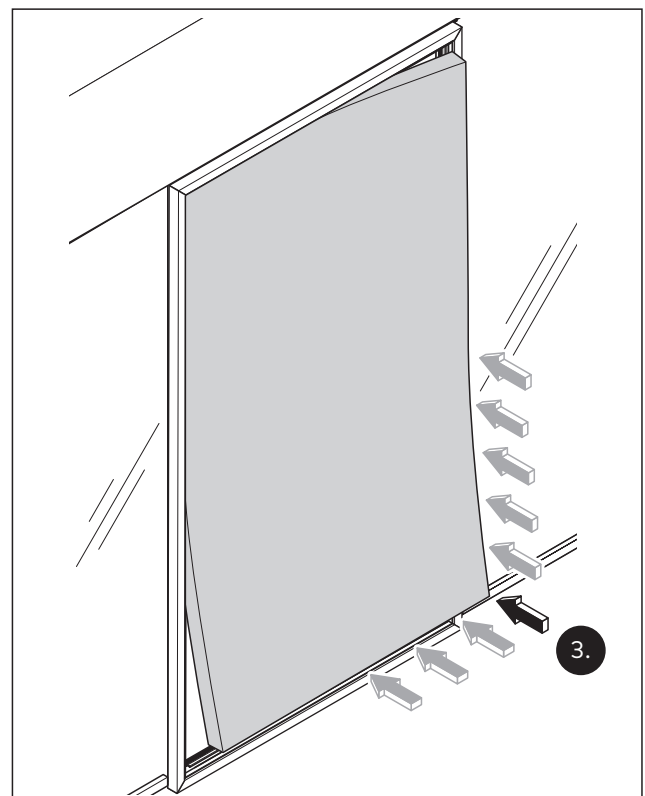

Fig. 39 Press the rubber piping in the lower right into the horizontal and vertical groove to the middle of the two profile sides
3. Starting from the bottom right, press the rubber piping outwards into the horizontal and vertical groove to the middle of the two profile sides (Fig. 39).